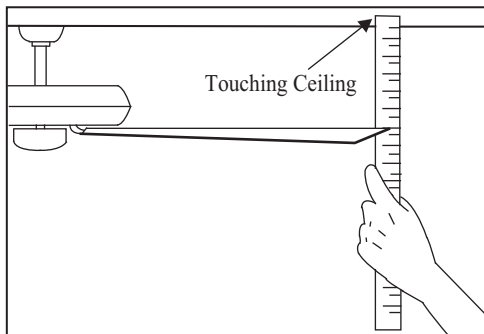

Figure 20
2. Most fan wobble problems are caused when blade levels are unequal. Check this level by selecting a point on the ceiling above the tip of one of the blades. Measure from a point on the center of each blade to the point on the ceiling. Measure this distance as shown in Figure 20. Rotate the fan until the next blade is positioned for measurement. Repeat for each blade. Measurements deviation should be within $1/8"$. Run the fan for 10 Minutes.